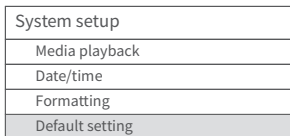

Figure 7 Sketch Map of Default settings
- (1) Long press the capturing button (Ⓢ) to enter the main interface of system setup menu.
- (2) Short press the capturing button (Ⓢ) and the recording button (Ⓜ) to move up and down. Select “default setting”, and long press the capturing button (Ⓢ) to go back to system default settings (as shown in figure 7).